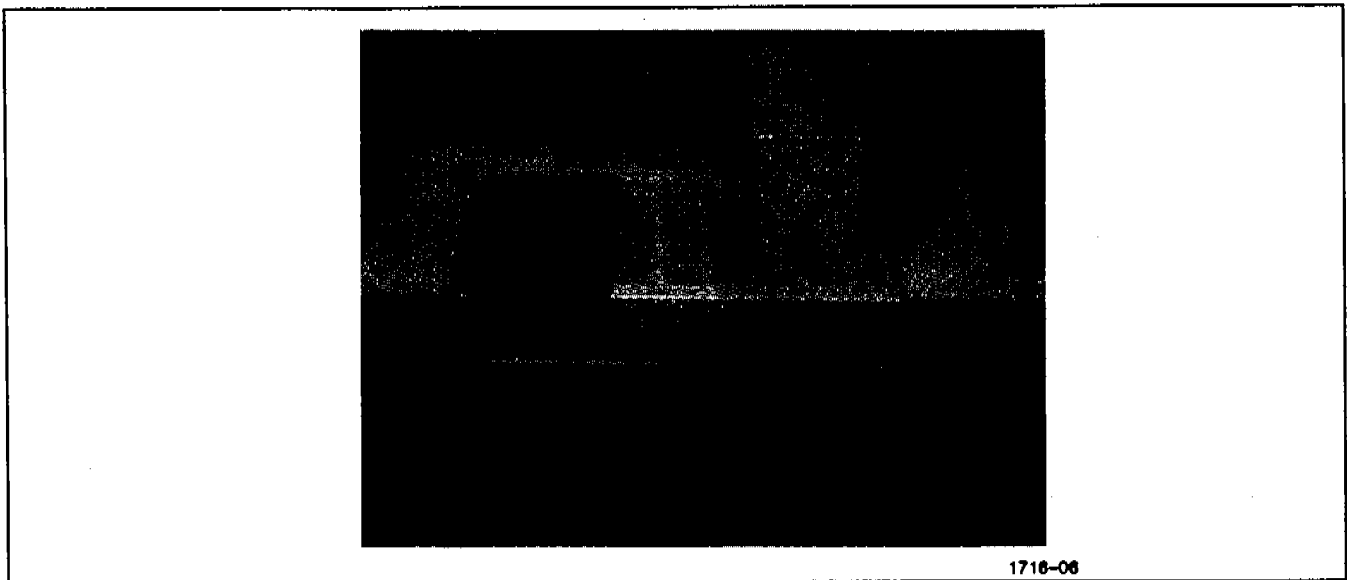

Figure 17
17. Install the new hinged top cover, with plastic injection port pan installed, to the HP 5890A with screws and washers removed from the HP 5890A (figure 17).